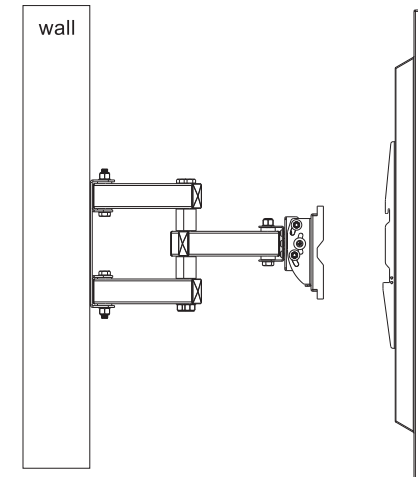

fig. 3.1
- Hook the TV mounted display brackets over the top of the wall plate as shown in fig. 3.1.